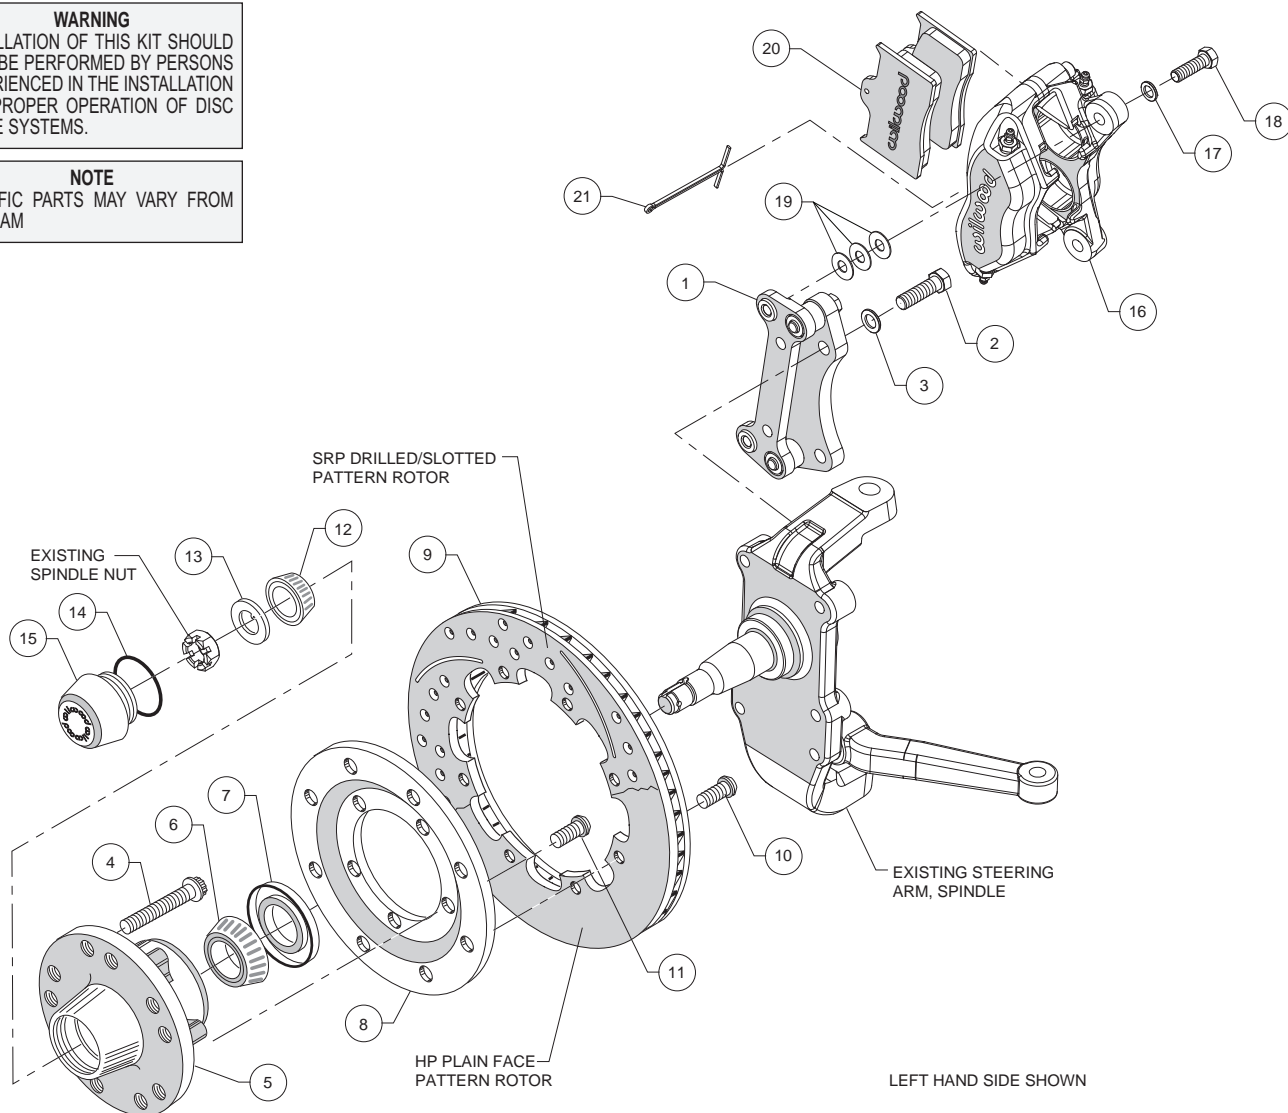
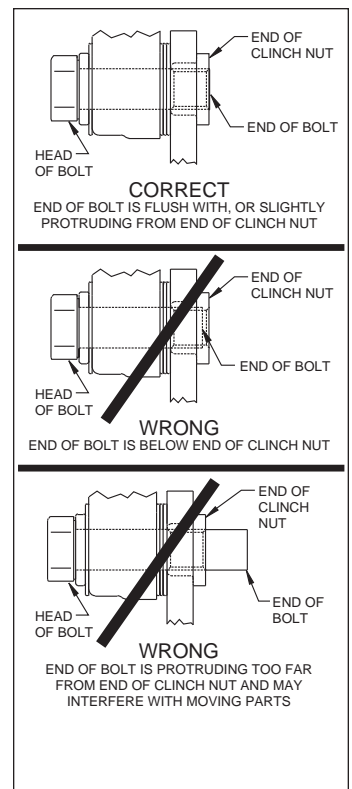

Figure 1. Typical Installation Configuration
Figure 3. Clinch Nut Engagement Diagram
**Assembly Instructions** (numbers in parenthesis refer to the parts list on the preceding page, and Figure 1): **CAUTION:** All mounting bolts must fully engage insert nuts. Be sure to check that all bolts are either flush or protruding through flanged side of clinch nut after shimming, Figure 3.
- Align caliper mounting bracket (1) with the corresponding holes, on the backside of the spindle and attach using bolts (2) and washers (3), as shown in Figure 1 and Photo 1. Temporarily tighten the mounting bolts. Ensure that the flanged heads of the clinch nuts in the bracket are facing outboard, Photo 1. **NOTE:** The bracket must fit squarely against the mounting points on the spindle. Inspect for interference from casting irregularities, machining ridges, burrs, etc. Remove bolts one at a time, apply red *Loctite*® 271 to threads, and torque to 55 ft-lb.
- Orient the rotor (9) and the rotor adapter (8) as shown in Figure 1 and Photo 4. Attach the rotor to the adapter using bolts (10). Using an alternating sequence, apply red *Loctite*® 271 to the threads, and torque to 25 ft-lb.
- Mount the adapter/rotor assembly (8/9) to the hub (5) using bolts (11), as shown in Figure 1 and Photo 5. Using an alternating sequence, apply red *Loctite*® 271 to the threads, and torque to 45 ft-lb.
- Pack the small outer bearing cone (12) with high temperature disc brake bearing grease and install into hub (5). Slide the hub/rotor assembly onto the spindle. Secure using spindle washer (13) and OEM spindle nut, Photo 6. Adjust bearings per OEM specifications. Install saved OEM nut lock (if any) and a new cotter pin (not included).
- Screw dust cap (15) into hub (5), Photo 7. Friction created by the o-ring (14) on the dust cap keeps it from unscrewing. **NOTE:** The O.D. of the existing OEM spindle washer may be larger than the I.D. of the dust cap not allowing it to seat against the hub face. Therefore, use the spindle washer (13) supplied with the kit instead of the OEM washer.
- NOTE:** Please reference the caution statement at the beginning of the assembly instructions. Mount the caliper (16) onto the caliper mounting bracket (1) using bolts (18) and washers (17), as shown in Figure 1. Initially place three .035" thick shims (19) on each bolt between the caliper and the bracket, Photo 8. Temporarily tighten the mounting bolts and view the rotor (9) through the top opening of the caliper. The rotor should be centered in the caliper, Photo 9. If not, adjust by adding or subtracting shims between the bracket and the caliper. Always use the same amount of shims on each of the two mounting bolts. **NOTE:** The end of each bolt must be flush with or slightly protruding from the head of the clinch nut, as shown in Figure 3. If necessary place spare shims between washer (17) and caliper mounting ear to achieve the proper clinch nut engagement. Once the caliper alignment and clinch nut engagement are correct, remove the bolts one at a time, apply red *Loctite*® 271 to bolt threads, and torque to 40 ft-lb.